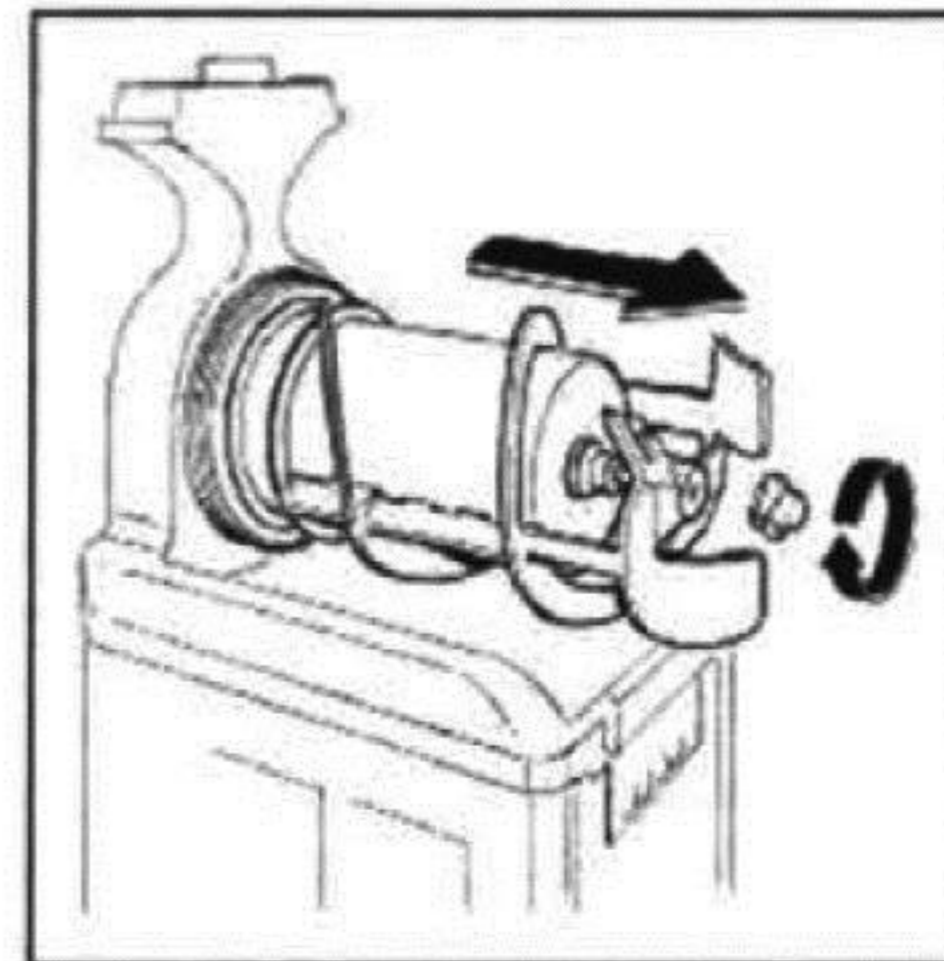

fig.31
- Unscrew the security knob in the direction of the arrow (threading on left), then pull out the mixing unit, the bell shaped seal and the bowl gasket on the back (fig.31).